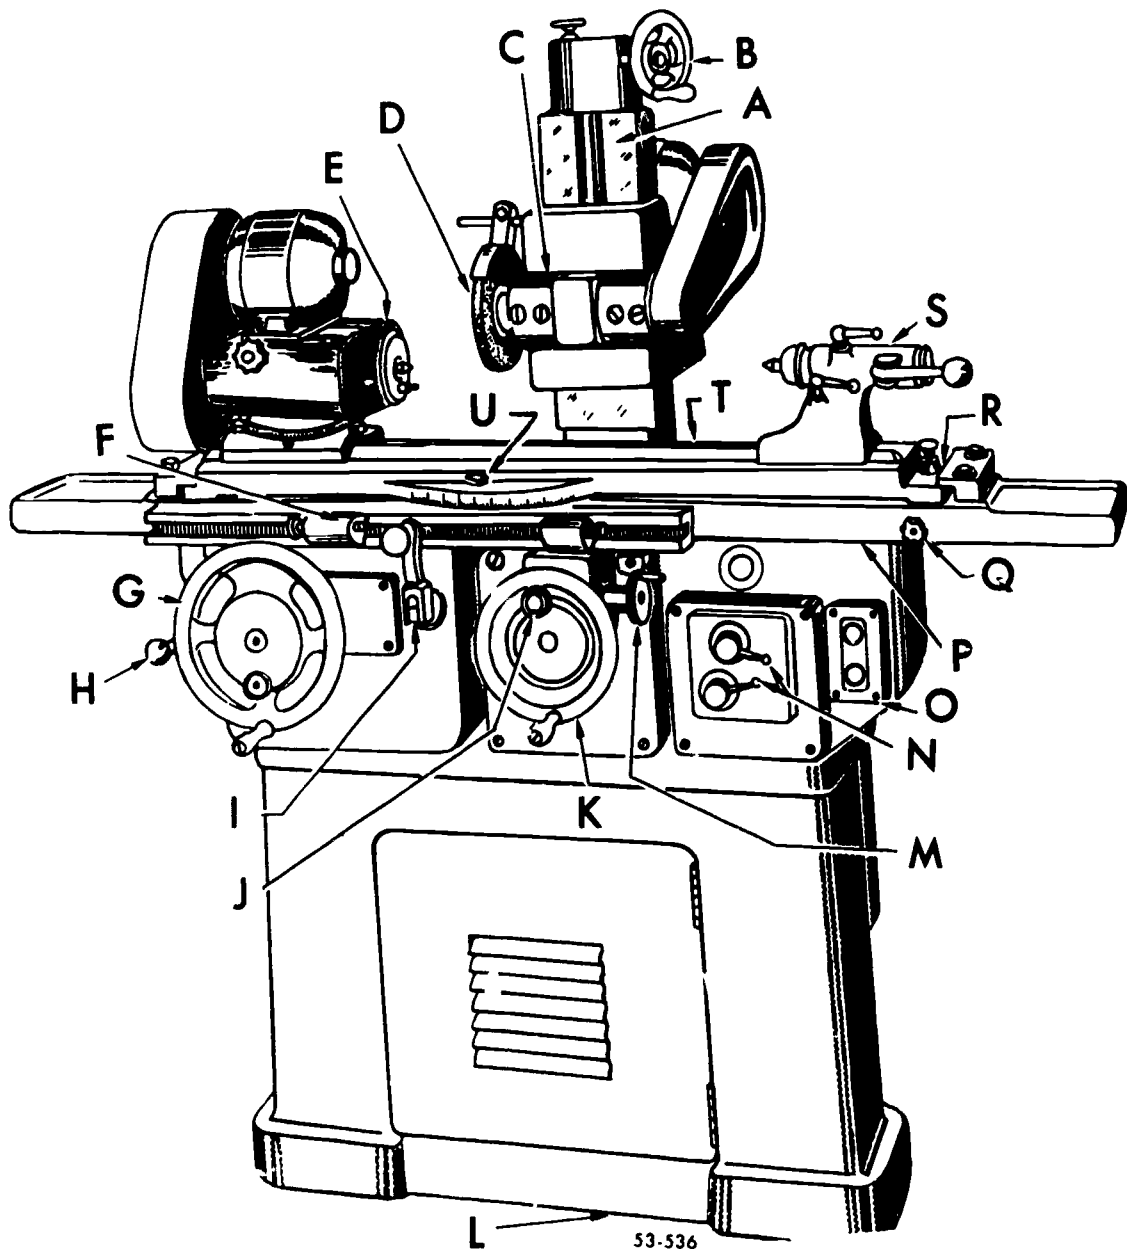

Figure 3-10 Typical universal tool and cutter grinder
**Exercises (429):**
**Cylindrical Grinding.** As we mentioned previously, the work in cylindrical grinding is driven by a spindle while it is being held in a chuck, on an arbor, or between centers. There are many types and sizes of grinding machines in the Air Force on which cylindrical grinding can be done. In most cases, though, it is done on a tool and cutter grinder similar to the one shown in figure 3-10. On this machine, the table can be swiveled as much as 45° in either direction. Also, the wheelhead can be swiveled 360° about its base. You obtain the depth of cut by feeding the wheelhead toward the work. The cutting action proceeds along the length of the work by the longitudinal movement of the table.